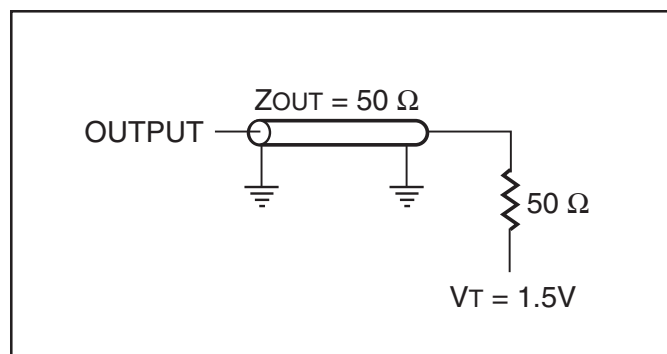

Figure 1
1. Test conditions assume signal transition times of 3 ns or less, timing reference levels of 1.5V, input pulse levels of 0 to 3.0V loading specified in Figure 1.
Output Load	See Figures 1 and 2
- Test conditions assume signal transition times of 3ns or less, timing reference levels of 1.5V, input pulse levels of 0 to 3.0V and output loading specified in Figure 1.